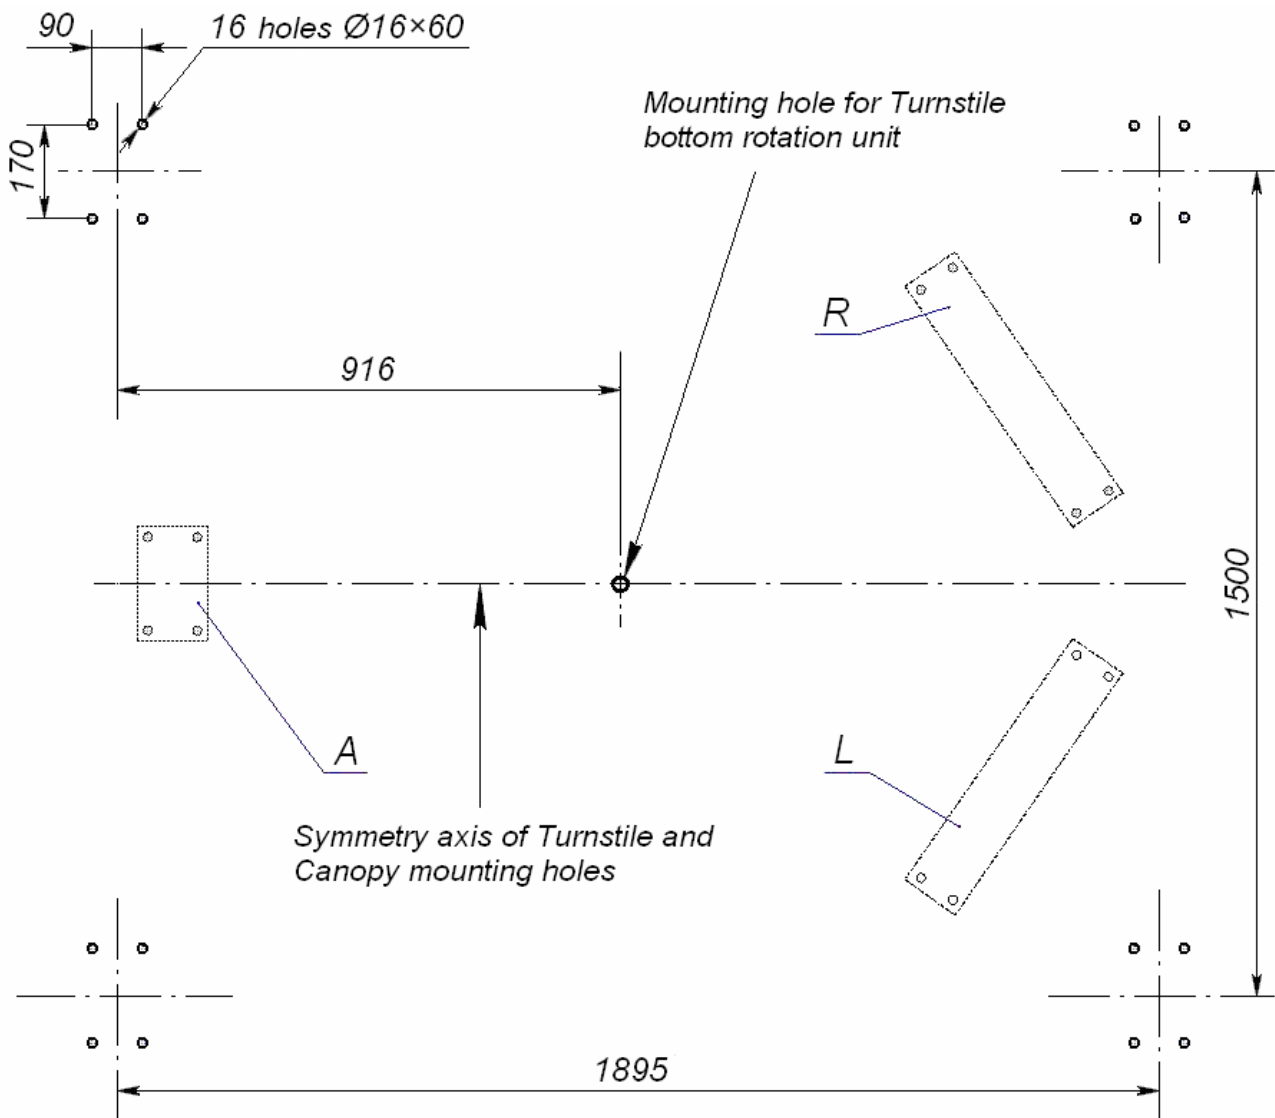

Figure 4. Hole pattern for mounting of the canopy posts (3) relative to the turnstile mounting holes:
“Right” and “left” names for the roof sections are conventional and correspond to the name of the RTD-15 turnstile guide barrier section (Fig. 4 and 8), below (see Operation Manual for the RTD-15 full height rotor turnstile).
Figure 4 shows a sketch layout of the turnstile mounting holes. Exact coordinates of the holes in A, L and R mounting points are given in the *Operational Manual to the RTD-15 Full Height Rotor Turnstile*.
8.3.2 Mark out the mounting holes for installation of the posts (3) according to Fig. 4.
Carry out the marking together with that for turnstile mounting holes given in the Operational Manual to the **RTD-15** Full Height Rotor Turnstile. Symmetry axis of turnstile and canopy mounting holes geometrically coincide (Figure 4).